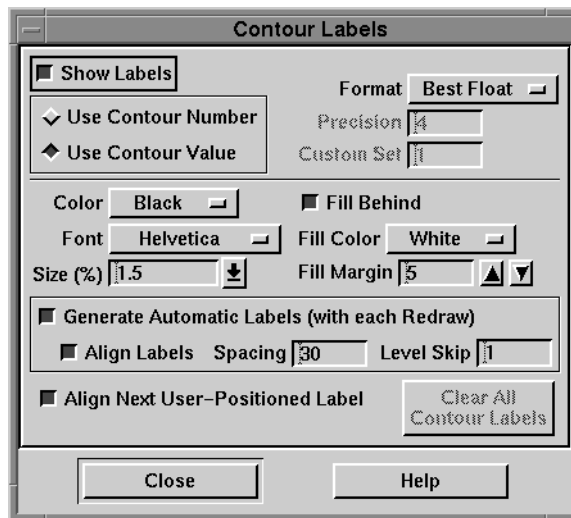

Figure 11-15. The Contour Labels dialog.
2. From the Field menu, choose Contour Labels. The Contour Labels dialog appears as shown in Figure 11-15.